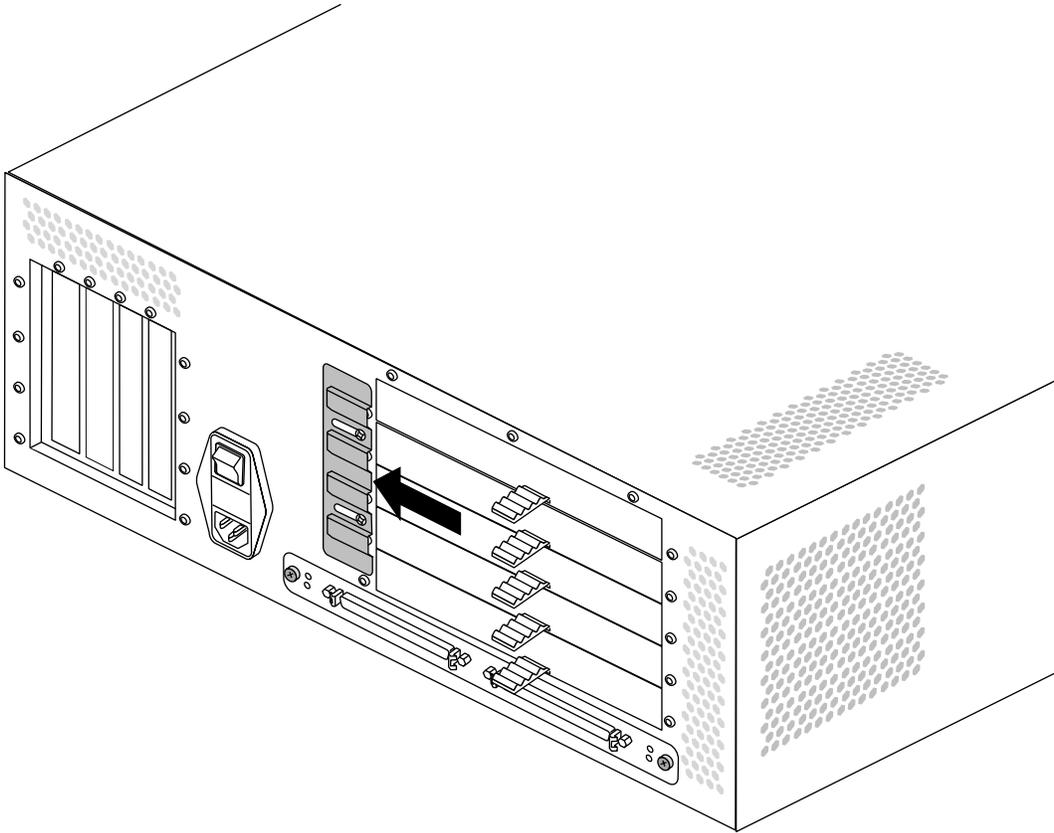

Figure 2-15 Sliding the Retaining Plate Aside
- 3. Slide the retaining plate towards the power switch so that it no longer overlaps the XIO slots, as shown in Figure 2-15.